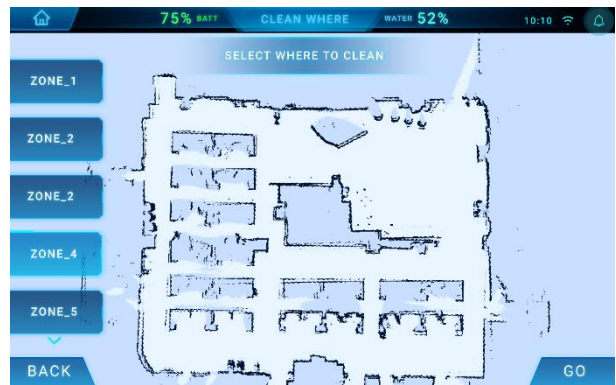

Fig 11
16. Select the map location (Fig 11).